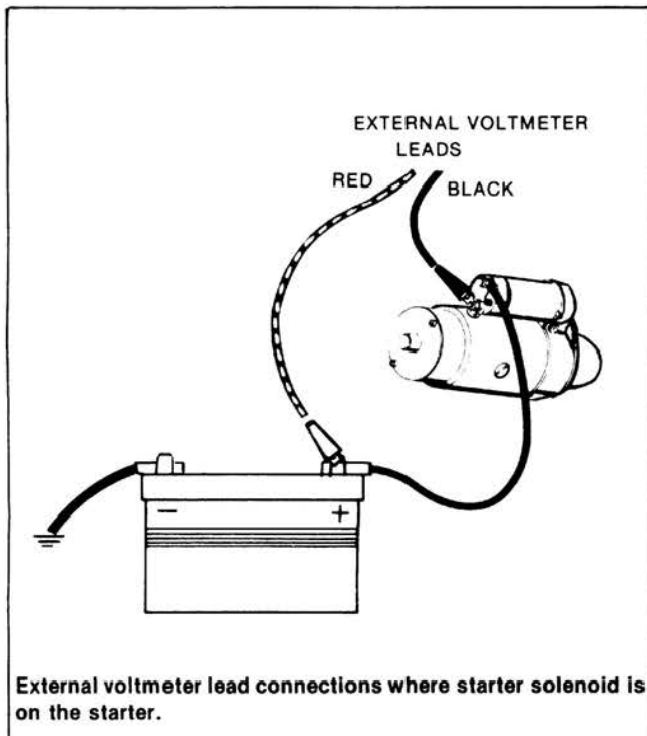

Figure 6
- B. Connect test leads as shown in Figures 6 and 7 for type of circuit being tested. Observe polarity.